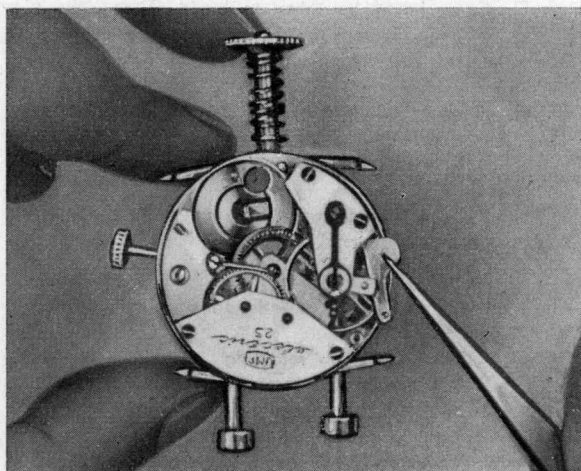
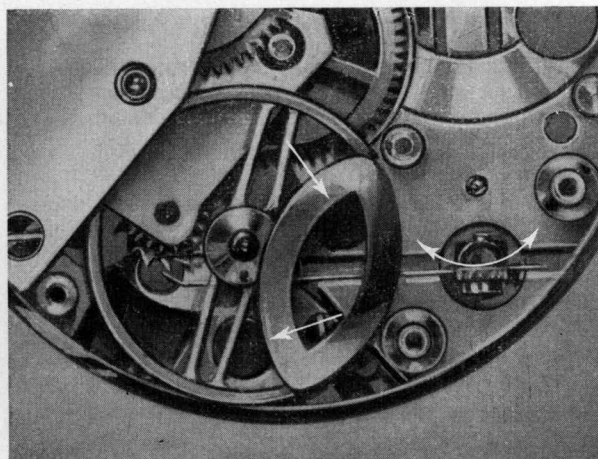

Fig. 8
Fig. 13
- (6.1.4) Release the upper yoke screws; remove the upper yoke by swinging it sideways. Care should be taken to avoid damaging the driving coil (see Fig. 8).
(b) In transverse direction by moving the adjusting lever. This operation allows to change the contact time, with concurrent adjustment of the closing point. There must not be any contact between spring and wheel when any one of the 15 teeth is engaged (see Fig. 13).
Analogous to this operation the disconnecting point is located, in relation to the working magnet bores, symmetrically to the closing point (see Fig. 13). The ohmmeter can be employed for determining the closing or opening points, resp. For this operation the instrument is connected with the contact head to the watch work (see Fig. 8). The contact threshold consequent upon the balance movement, according to 6.4.19, can be recognized by the instrument pointer deflection. On disconnection the pointer goes back to ∞ . When the contact had been removed but not released from the clamping device, the contact holder within the clearance provided original contact setting can be found by moving in the insulating piece (see Fig. 13).